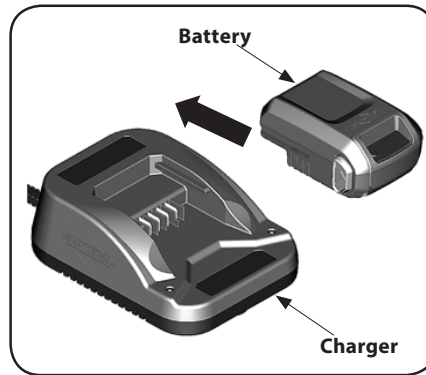

Figure 4-11
2. Slide the battery pack firmly into the battery charging bay. See Figure 4-11. If the red charging light does not come ON, remove the battery pack and reinstall. Make sure the battery pack is firmly seated in battery charging bay.